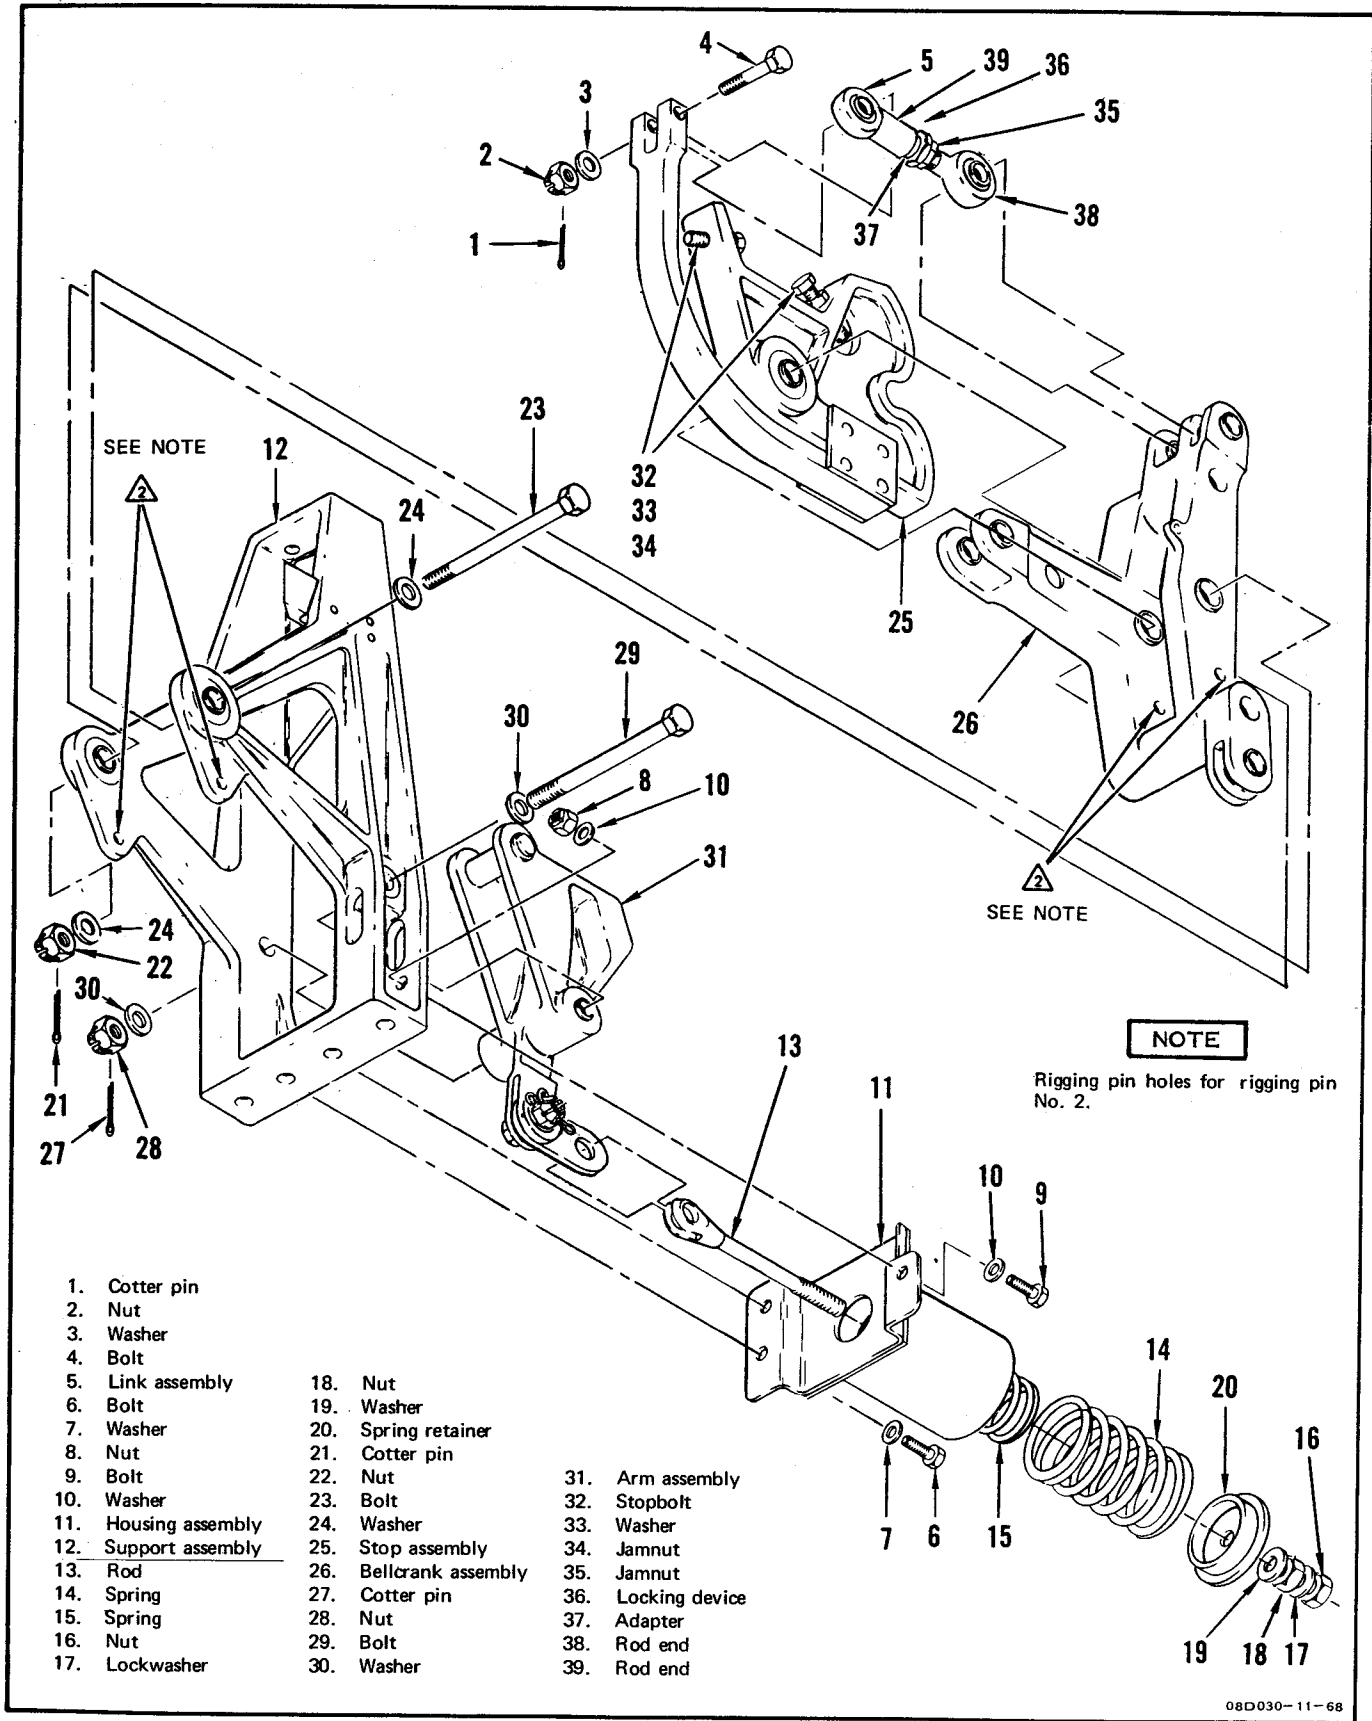

Figure 5-13. Clean Condition Stops Assembly Repair
- q. Connect control cable end (11) to bellcrank assembly with washers (10), bolt (9), and nut (8).
- r. Secure nut with new cotter pin (7).
- s. Connect link assembly (6) and control cable end (5) to bellcrank assembly with washers (4), bolt (3), and nut (2).
- t. Secure nut (2) with new cotter pin (1).
- u. Install backlash spring (12).
**5-52. CLEAN CONDITION STOPS ASSEMBLY REPAIR.** (See figure 5-13.)